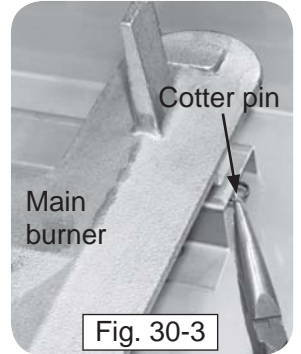

Fig. 30-3
3. Remove the cotter pin from the left or right rear burner anchoring peg by pulling it straight out of the cotter pin hole using fingers or needle-nose pliers (Fig. 30-3).